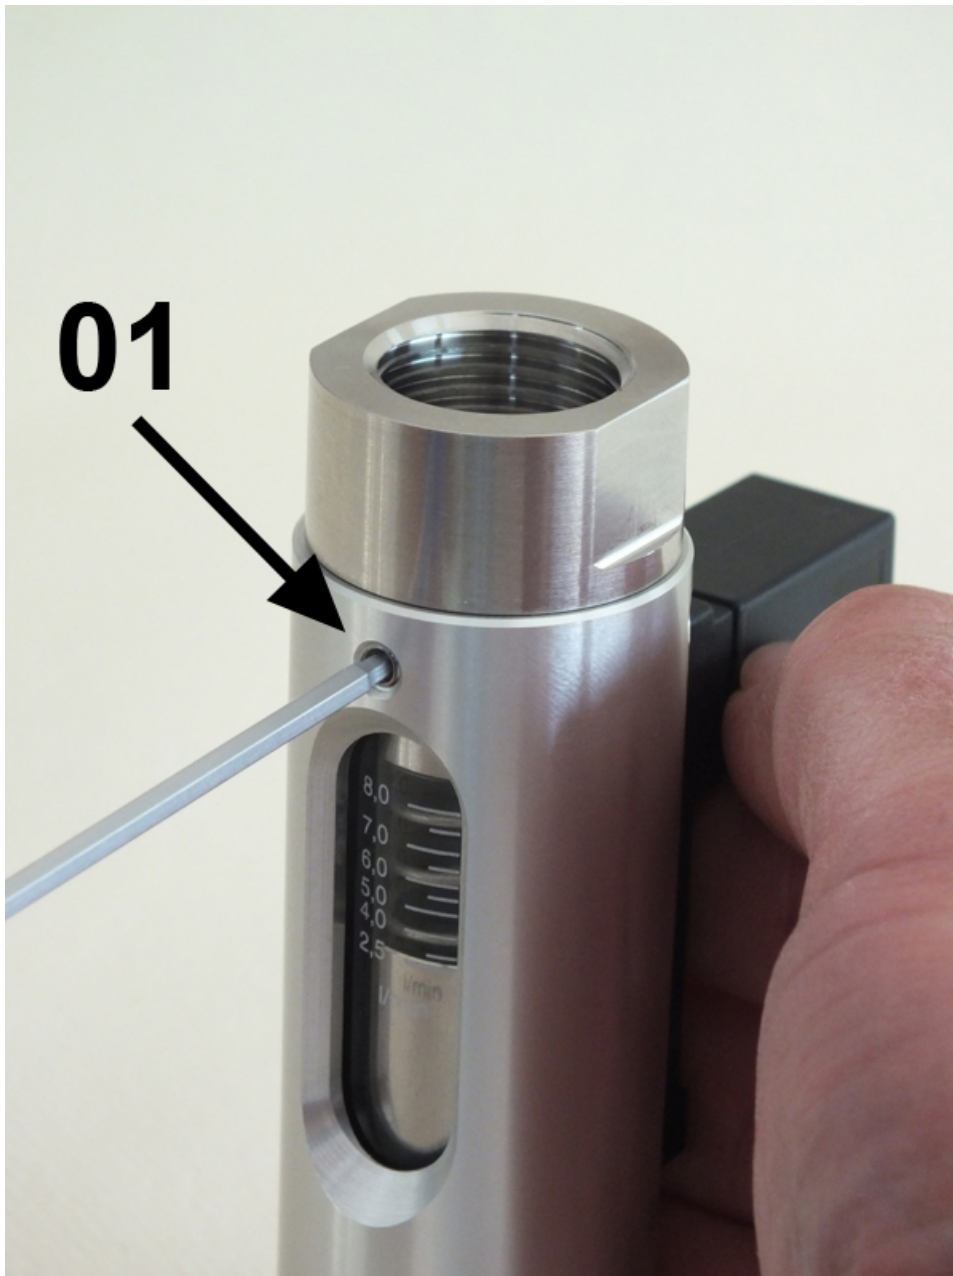

Fig. 35: Loosen screws
1. ➤ Loosen the top 3 hex socket screws (*Fig. 35/01*) using a hex screwdriver.